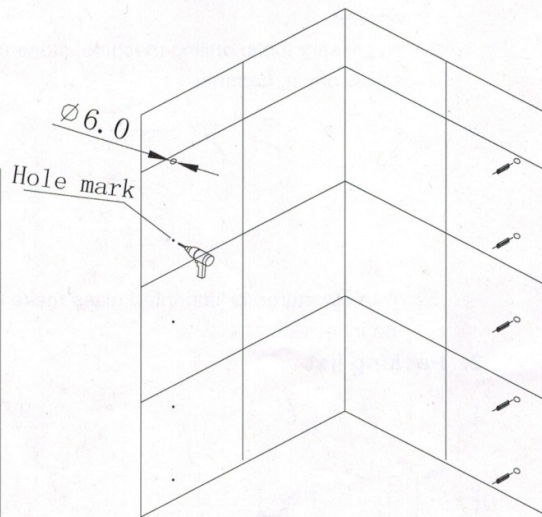

Fig. 2
- 2). Drilling the holes (10-- $\phi 6\text{mm}$) according the mark, insert the plastic plug into the holes, As FIG. 2.